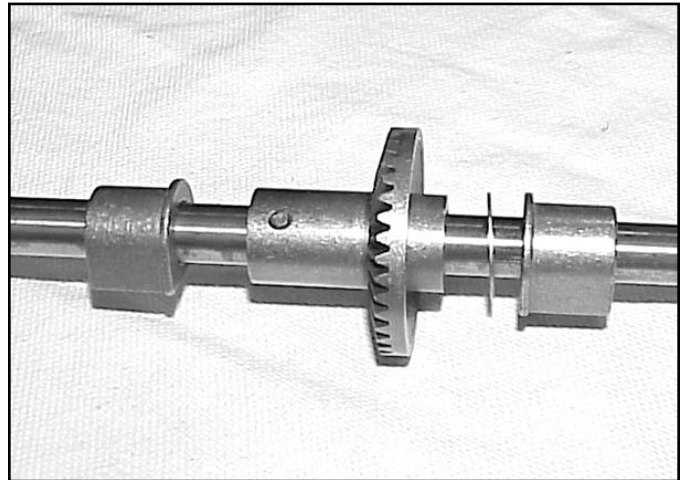

Fig 083
4. Slide the bearings and thrust washer off the axle. Drive the roll pin out and the bevel gear can be removed (Fig. 083).